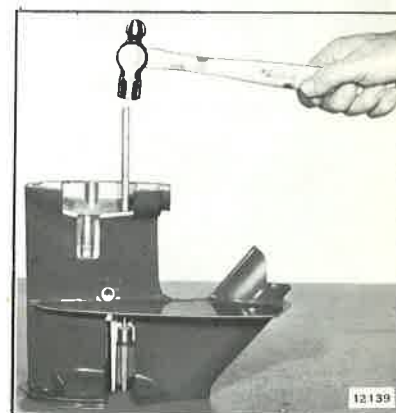

Figure 6-16. Removing Shift Rod Bushing
- g. Remove carbon, and pull lower shift rod from upper gearcase. Drive out shift rod bushing and "O" ring with Bushing Punch (Special Tool #304514). See Figure 6-16. Remove driveshaft seal, using Seal Puller (Special Tool #377565). See Figure 6-17.